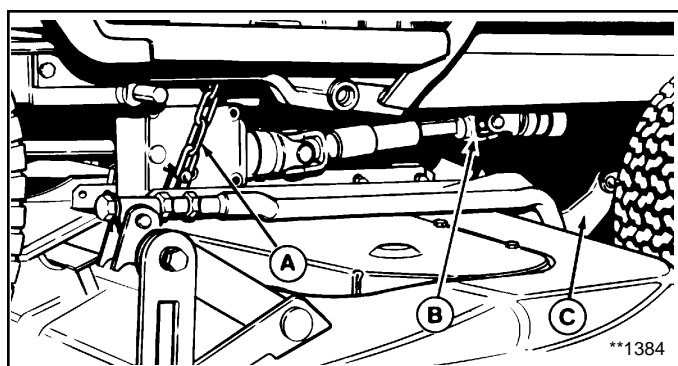

Figure 7. Mower Installed -Viewed From Right Side
7. Figure 7 shows mower installed, as viewed from the right side.
6. With mower in high cut position, disconnect the chains (figure 7).